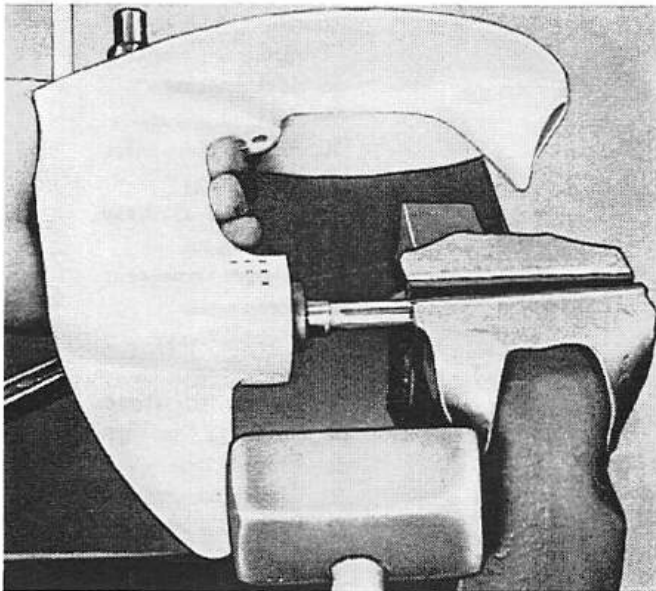

Figure 7. Pulling Propeller Shaft Assembly
5. Pull propeller shaft drive assembly, including water intake housing, rubber sealing ring, metal retainer and propeller shaft assembly which includes snap ring, shim, ball bearing, bevel drive gear, key and metal bearing ring. (Figure 7)